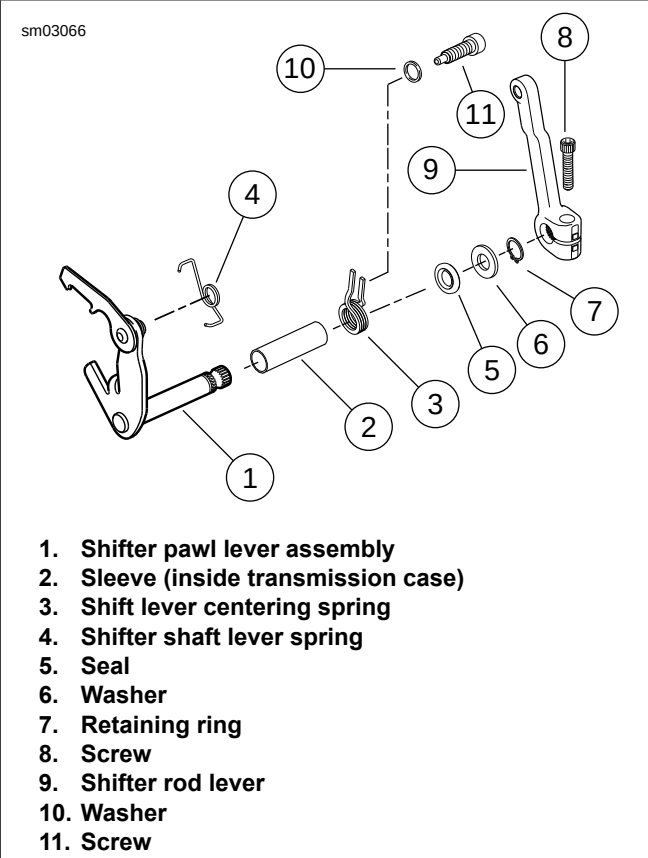
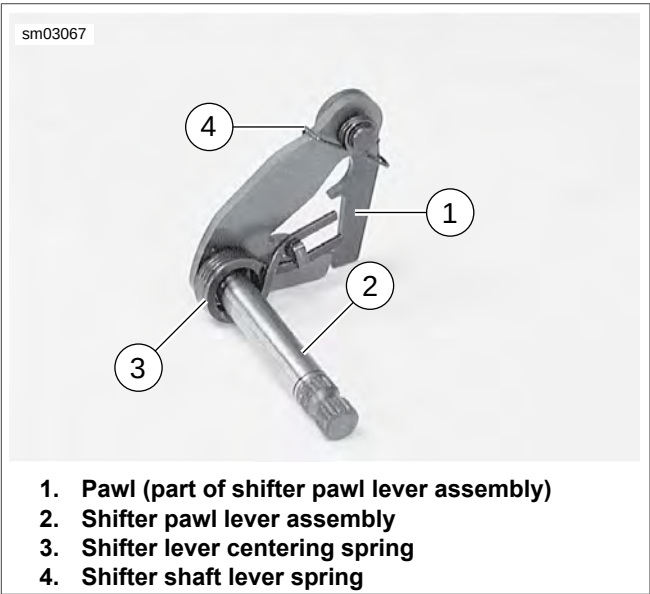

Figure 6-52. Shifter Arm Assembly
Figure 6-53. Shifter Pawl Lever Assembly
1. See Figure 6-52. After removing bearing housing assembly, remove screw (8) and shifter rod lever (9) from the shifter pawl lever assembly (1).
2. Remove retaining ring (7), washer (6) and seal (5). Discard retaining ring and seal. Pull shifter pawl lever assembly out of the transmission case.
3. Inspect sleeve (2) inside transmission case.
2. See Figure 6-52. Inspect the shifter pawl lever assembly (1) for wear. Replace assembly if pawl ends are damaged. Replace centering spring (3) if elongated.
3. Inspect the shifter spring (4). Replace if the spring fails to hold the pawl on the cam pins.
1. See Figure 6-52. Verify that sleeve (2) is inside transmission case.
2. Install screw (11) and washer (10) into side of transmission case. Tighten to 18-23 ft-lbs (24.4-31.2 Nm).
3. See Figure 6-53. Slide shifter lever centering spring (3) over shaft of shifter pawl lever assembly (2). Align opening on spring with tab on lever.
4. Place shifter shaft lever spring (4) on shifter pawl lever assembly.
8. See Figure 6-52. Install shifter rod lever (9) on the shifter pawl lever assembly shaft end using screw (8). Tighten to 18-22 ft-lbs (24.4-29.8 Nm).